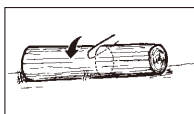

Fig. 13A
1. Log supported along entire length: Cut from top (overbuck), being careful to avoid cutting into the ground (Fig. 13A).